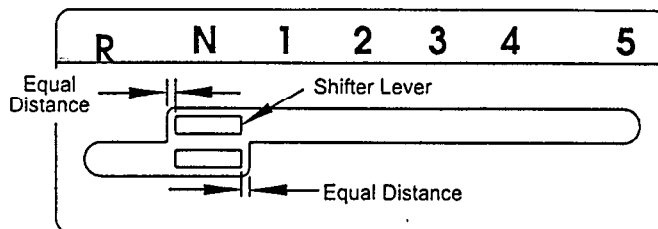

FIG. 7
- c) Shift to neutral position. Lever should not contact the left edge of the upper slot. Push lever down. Lever should not contact the right edge of the bottom slot (See Figure 7). Shifter plate can be adjusted side to side to adjust position of lever relative to the slot in plate. Loosen four bolts on top of transmission which hold shifter plate in place, adjust shifter plate and retighten bolts.